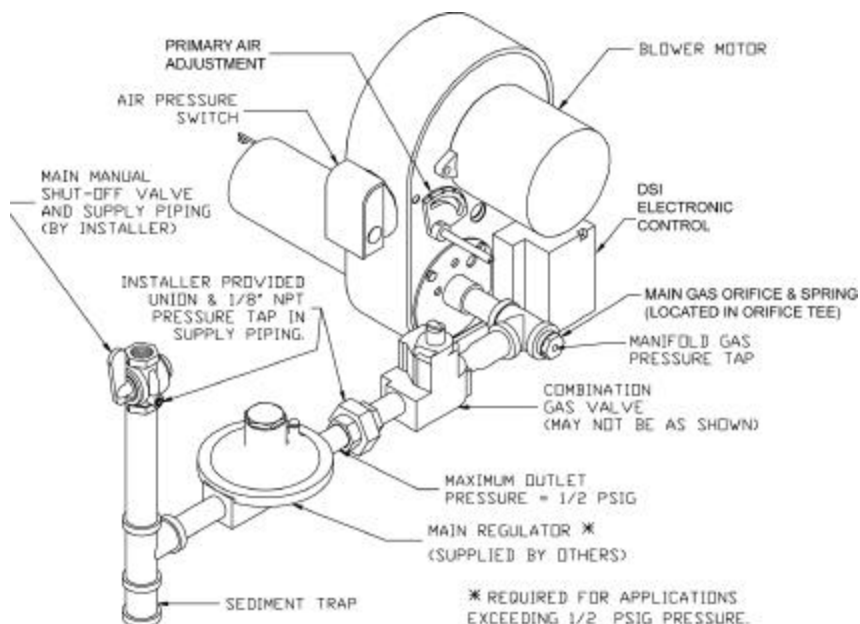

Figure 6: Piping Diagram
⚠ CAUTION: The available gas pressure should be within the limits shown in Table 1 - SPECIFICATIONS section. Excessive pressure may damage electric valves, regulators and manual valves. If the supply pressure exceeds the 14.0"W.C. maximum, a suitable high pressure regulator must be installed between the Main Manual Shut-Off Valve and burner combination valve as shown in Figure 6.
- ⚠ Provide a sediment trap, union and 1/8" pressure tap in piping close to burner as shown in Figure 6.
- ⚠ If the burner piping must be rearranged because of space limitation, be sure to carry out the general arrangement shown in Figure 6. Install the combination valve in any position except up-side down.